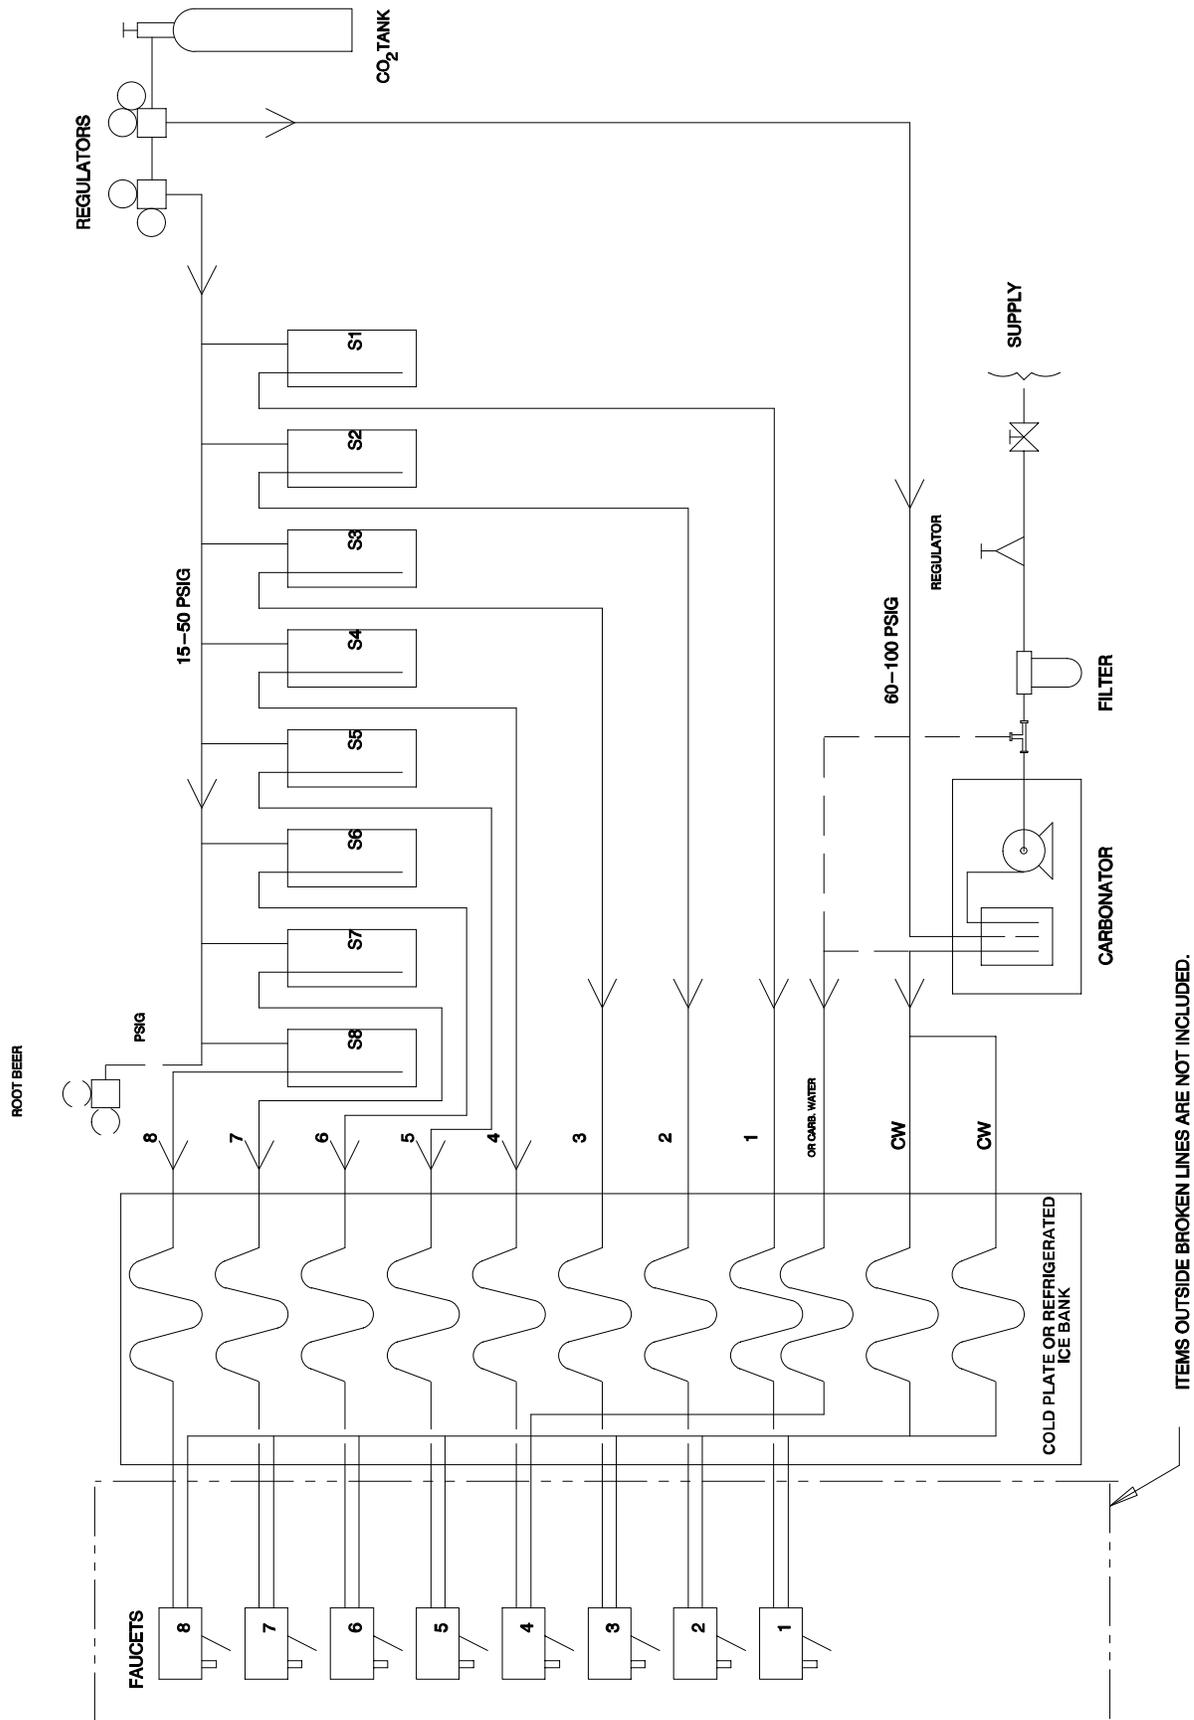
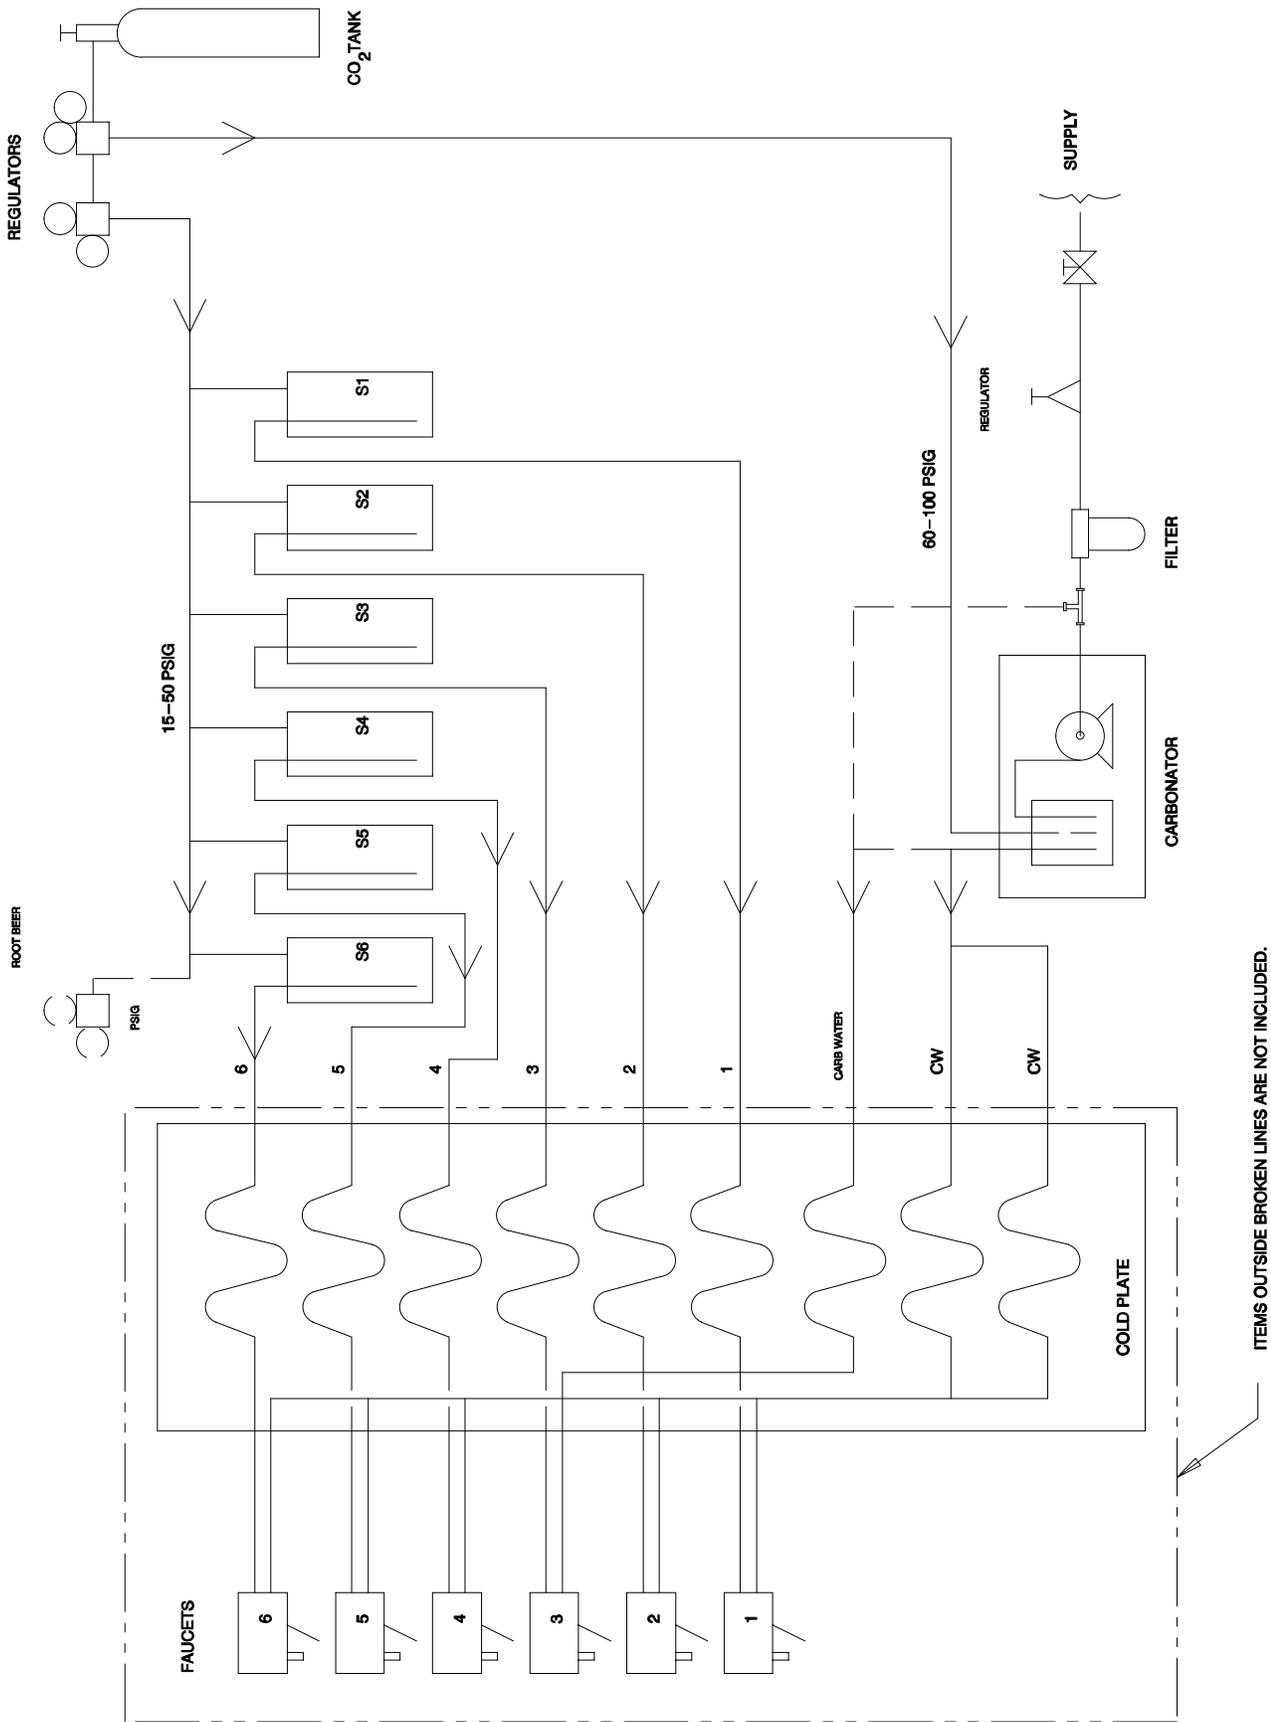

FIGURE 4. BEVERAGE SYSTEM SCHEMATIC ("B" MODELS)
FIGURE 5. BEVERAGE SYSTEM SCHEMATIC ("BC" UNITS)
4. Connect the beverage system product lines as indicated in Figure 4 (“B” units) and Figure 5 (“BC” units). This work should be done by a qualified service person. Note that the lines are marked with numbers 1 through 6 for syrup connections and “CW” for the carbonated water connection.